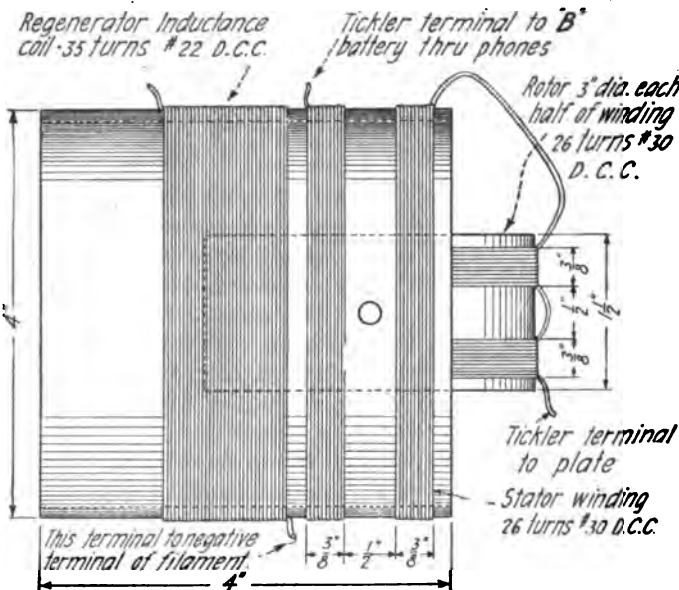

FIG. 5
- 1 Vario-coupler of special design (see Fig. 5 and text.) This coupler comprises L_1 and L_2 .
The inductive coupler shown in Figure 5 may be made according to that sketch. Care should be taken to see that the windings of the "regenerator inductance coil" run in the same direction as those of the stationary coil of the tickler if the device is to be connected into the circuit as indicated in the sketch. In case this is not done, the terminals of the tickler may be reversed.